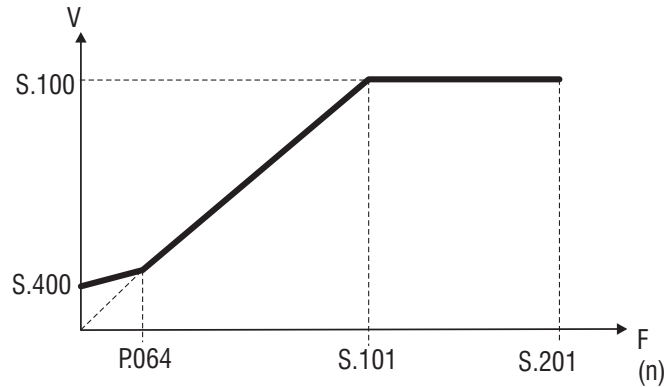

Figure 7.3.3: Manual Boost Voltage
**P.064** parameter represents the return point of the output voltage, on the linear characteristic of V/f characteristic (see figure 7.3.3).